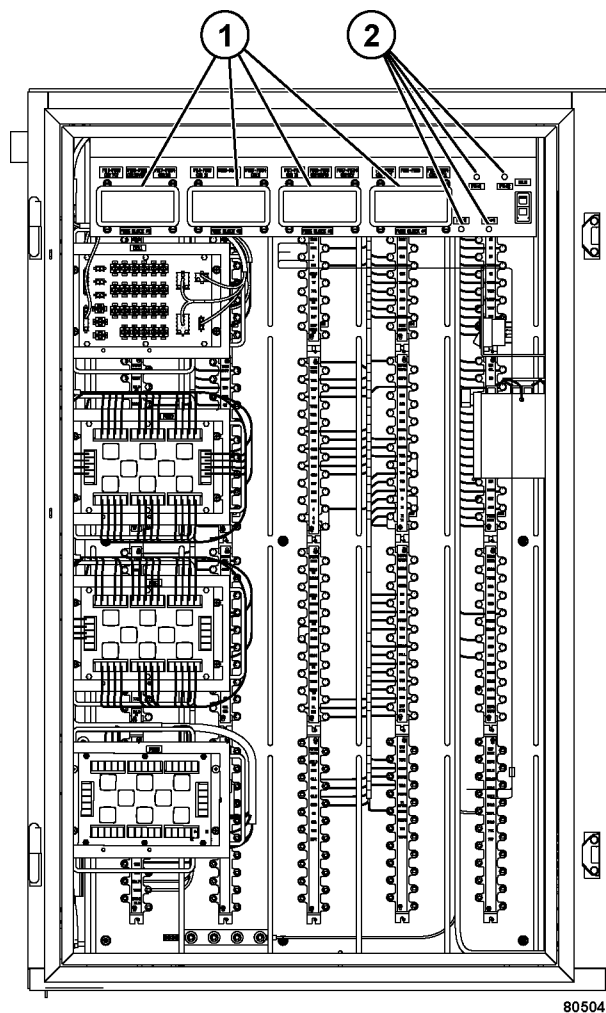

FIGURE 3-3. AUXILIARY CONTROL CABINET - FRONT VIEW
Four fuse blocks (1, Figure 3-3) and four fuse holders (2) contain fuses that protect various circuits on the truck. Always replace a blown fuse with a new one of the same rating. For a listing of fuse sizes and circuits, refer to the Fuse Blocks charts at the end of this section.